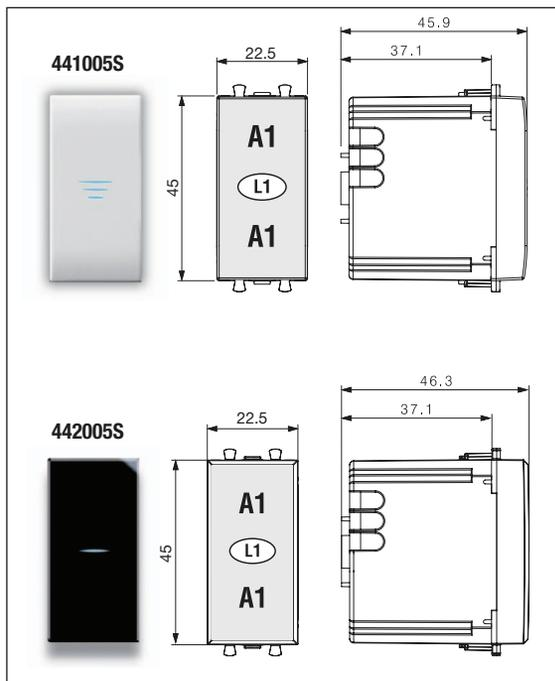

Figure 1
- Sensitive front area: the entire front of the apparatus (see fig. 1 area A1)
- Command: rest the finger gently on the plate near the entire front of the device (see fig. 1)
- Front Led (L1) for locating in the dark (see fig. 1): when the hand approaches the LED emits a brighter light.